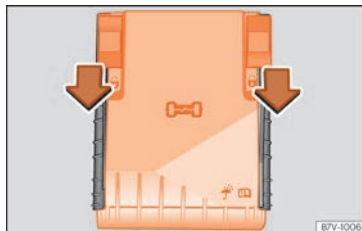

Fig. 59 In the engine compartment: fuse box cover.
- Move the attachment tabs forwards, in the direction indicated by the arrow to release the fuse box cover » **Fig. 59**.